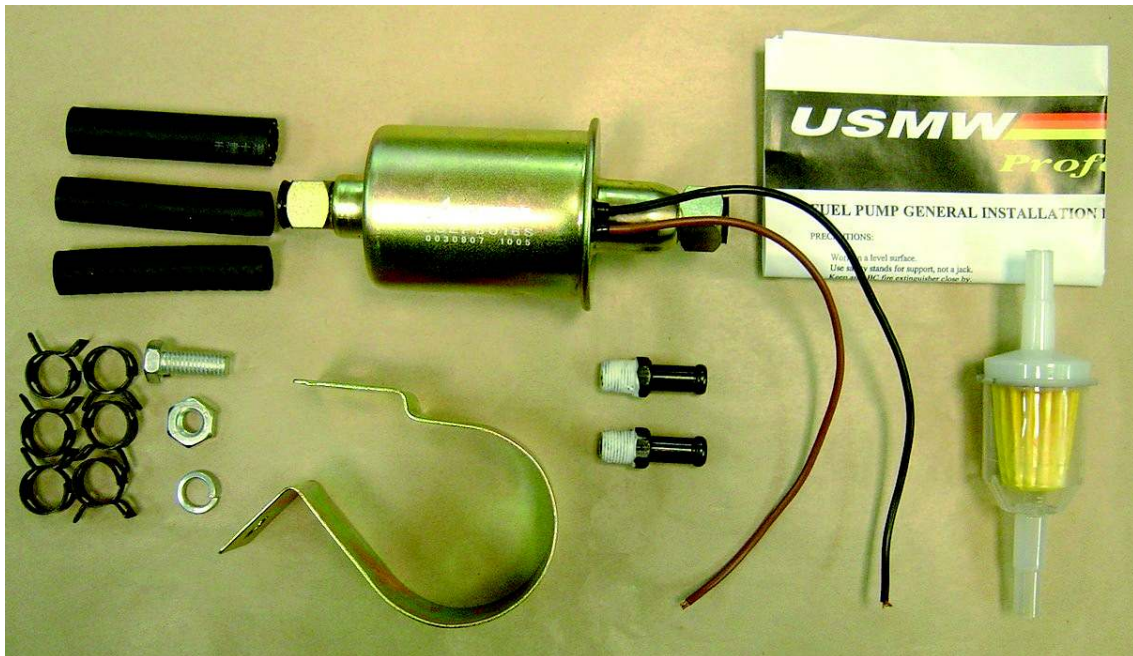

Figure 1. Kit Parts
1. Verify that all parts are included in the kit per Figure 1.